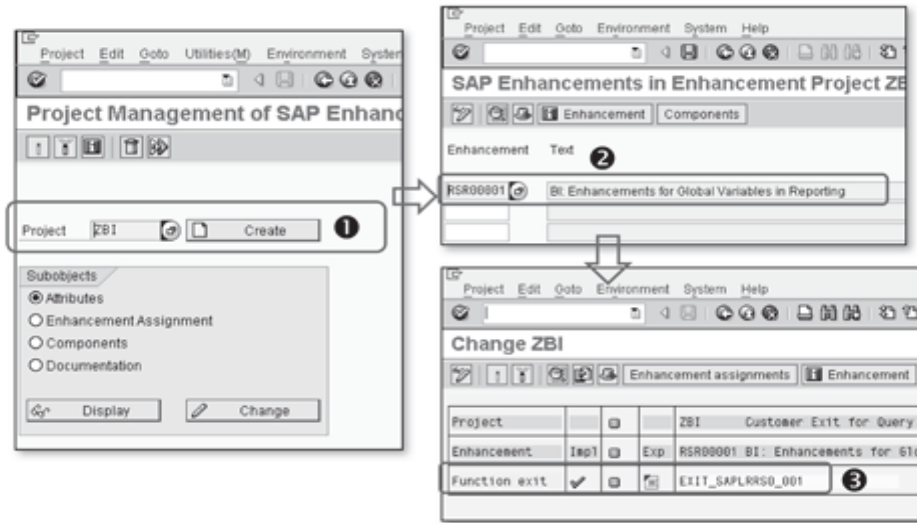
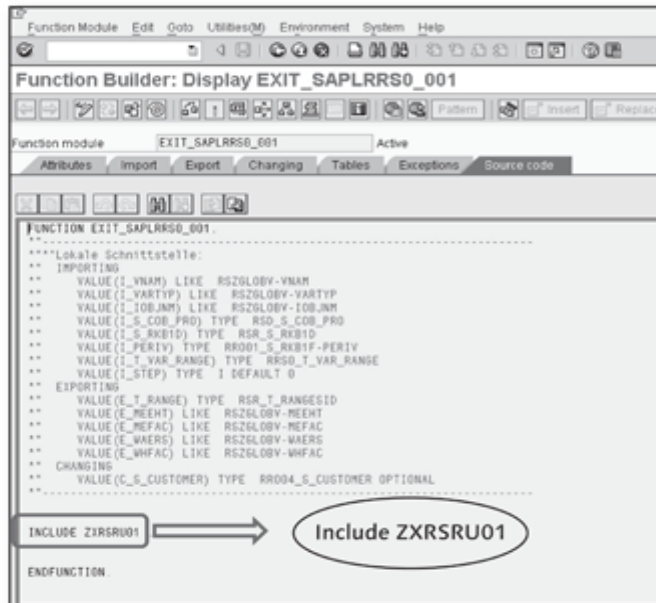

Figure 9.32 Define a Project Using the Function Module for Customer Exit
Figure 9.33 Include to Write Custom Logic
To write the ABAP logic for customer exit variables, SAP has provided a function module exit EXIT_SAPLRRSO_001 in SAP NetWeaver BW. This exit can be accessed only through a project for SAP enhancement. The project can be created using Transaction CMOD in SAP NetWeaver BW (1 of Figure 9.32).
The project used for customer exit query variables should contain the enhancement RSR00001 (2 of Figure 9.32), which makes the function exit EXIT_SAPLRRSO_001 available under components of the project (3). Double-click on the function exit to enter the code. The function builder screen for the exit is displayed as shown in Figure 9.33.